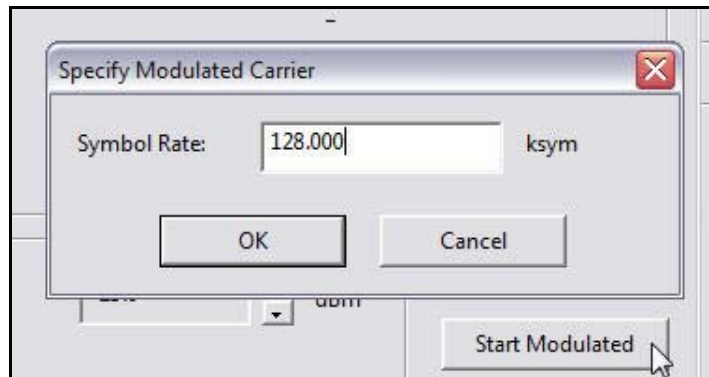

Figure 51. iSite: Transmitting a Modulated Carrier
- b. In the Specify Modulated Carrier dialog box (Figure 51), accept the default Symbol Rate of 128 kilosymbols per second.